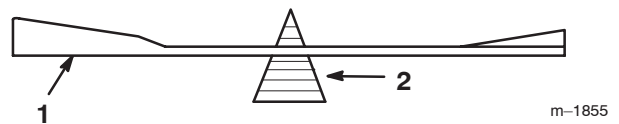
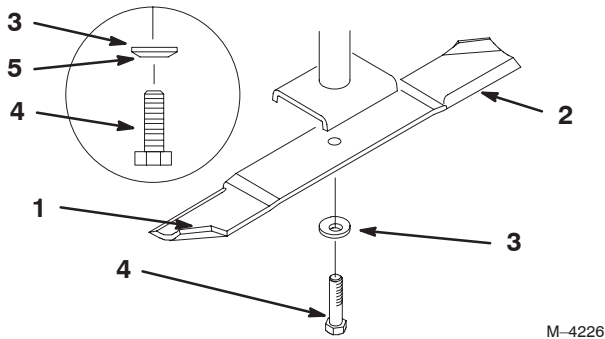

Figure 33
Figure 34
1. Hold the blade end using a rag or thickly-padded glove. Remove the blade bolt, spring disk and blade from the spindle shaft (Fig. 34).
2. Check the balance of the blade by putting it on a blade balancer (Fig. 33). If the blade stays in a horizontal position, the blade is balanced and can be used. If the blade is not balanced, file some metal off the end of the sail area only (Fig. 34). Repeat this procedure until the blade is balanced.
1. Install the blade onto the spindle shaft (Fig. 34).
2. Install the spring disk and blade bolt (Fig. 34). **Torque the blade bolt to 85–110 ft-lb (115–150 N m).**